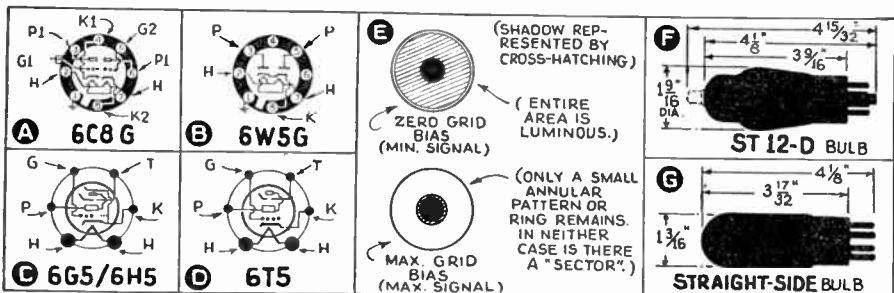

Fig. 2. Base connections and bulb styles.
**6C8G (Glass) Twin Triode Voltage Amplifier.** The triode units of this tube are independent of each other as the elements of this triode are brought out to separate prongs. Designed for service as a voltage amplifier or phase inverter. The voltage between heater and cathode should be kept as low as possible for they are not directly connected. Both triodes have been designed to match each other closely making it possible to build an inexpensive high-quality push-pull audio output system. The mechanical design is illustrated in Fig. 2.
**6T5 Annular-Pattern Tuning Indicator.** Instead of "opening" like a fan, the "eye" of this new tube fills the area uniformly as shown in Fig. 2. This tube has operating conditions similar to those for the 250 V. rating of the type 6G5.